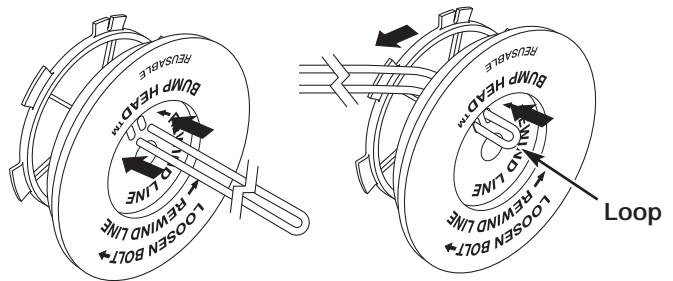

Fig. 55
6. Take approximately 5 m (16 feet) of new trimming line, loop it into two equal lengths. Insert each end of the line through one of the two holes in the inner reel (Fig. 55). Pull the line through the inner reel so that the loop is as small as possible.